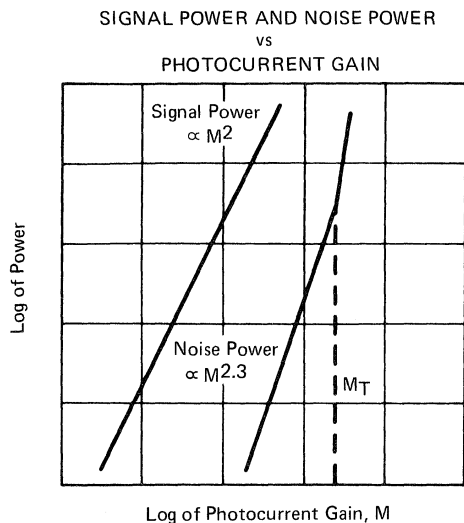

FIGURE 1
3. Gain MT is measured at the reverse voltage at which the noise deviates from the theoretical linear characteristic. See Figure 1. Radiant flux is as required to give a photocurrent of 0.1 nA rms at VR = 20 V.